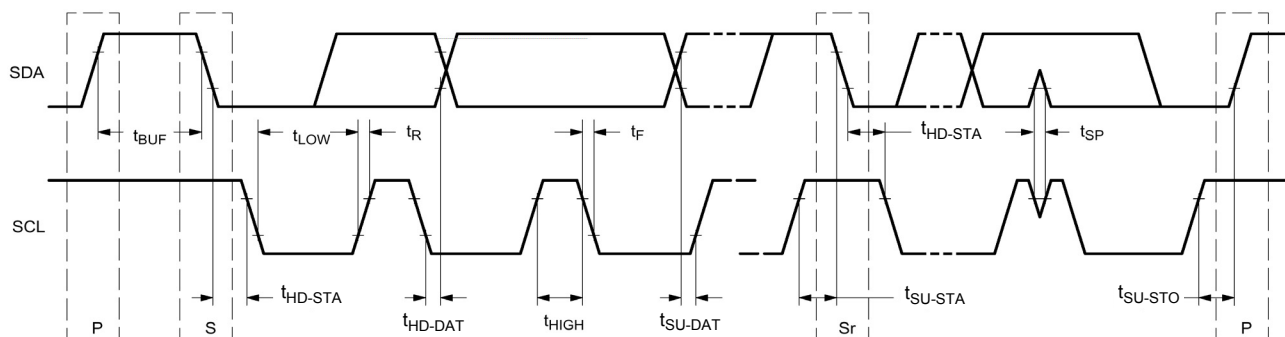

Figure 4. Definition of Time on the I²C Bus
19. see Figure 4 for more details